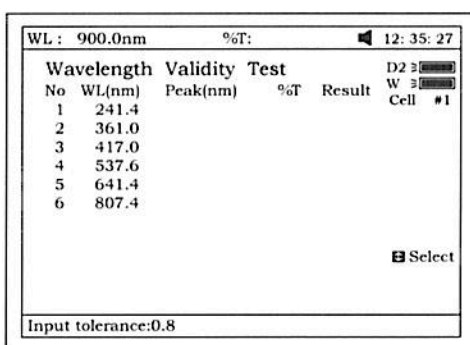

Fig 98
3. Press **【F3】** to set tolerance (Fig 98). Input the value by pressing the numeric keypad.